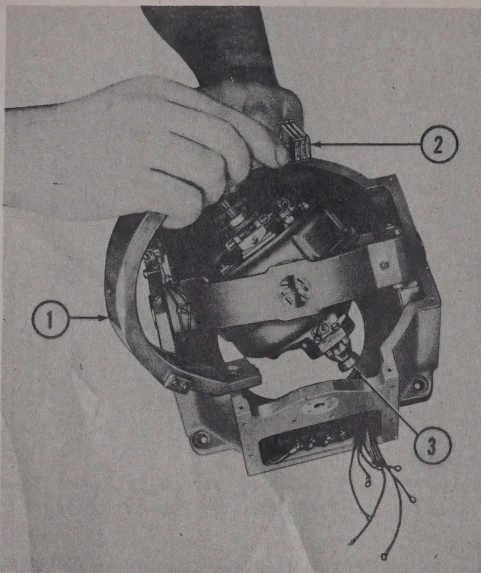

Figure 218 — Inserting Counterbalance Guide Channel
(c) Grasp the rotor spindle with one hand, tip it over toward the AN receptacle (*figure 218*), and insert the counterbalance guide channel (1) from the opposite side. Be very careful not to jam or twist the flex leads attached to the counterbalance guide channel at the triple wiper end (2). Make sure that the guide roller (3) falls into the channel of the counterbalance guide channel as it finally reaches its correct position.